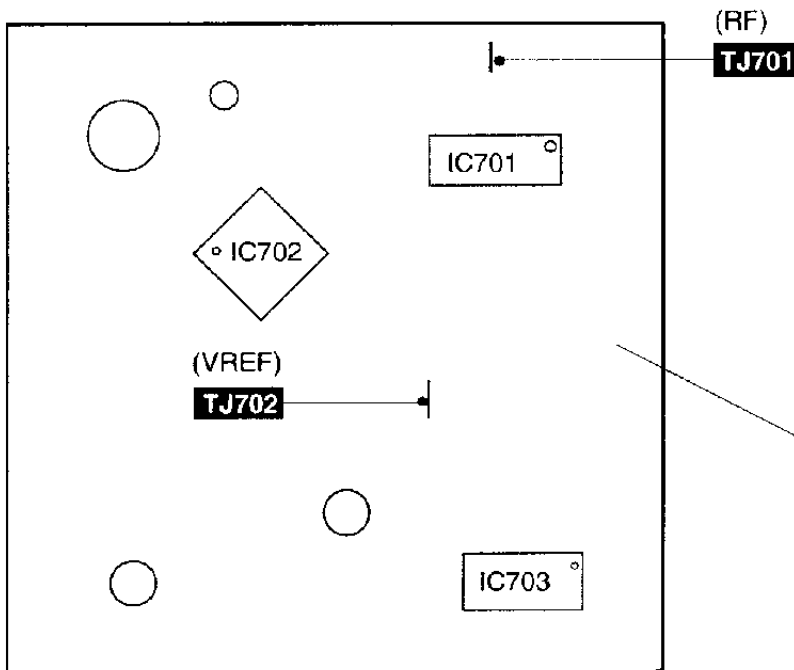

Fig. 5
1. Connect the oscilloscope's CH. 1 probe across **TJ701** (RF) (+) and **TJ702** (V-Ref.) (-) on the servo P.C.B. (Refer to Fig. 5)